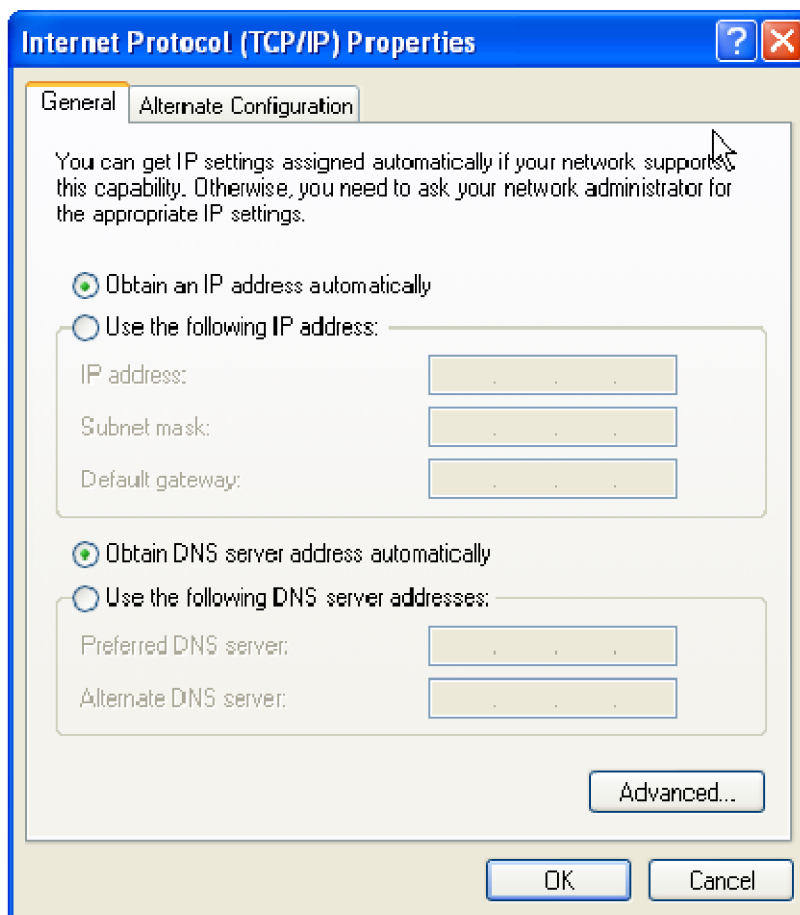

Figure 14: IP Properties dialog box
7. Scroll down the list and select **Internet Protocol (TCP/IP)**, and then click **Properties**. The Internet Protocol (TCP/IP) Properties dialog box appears. (See Figure 14.)